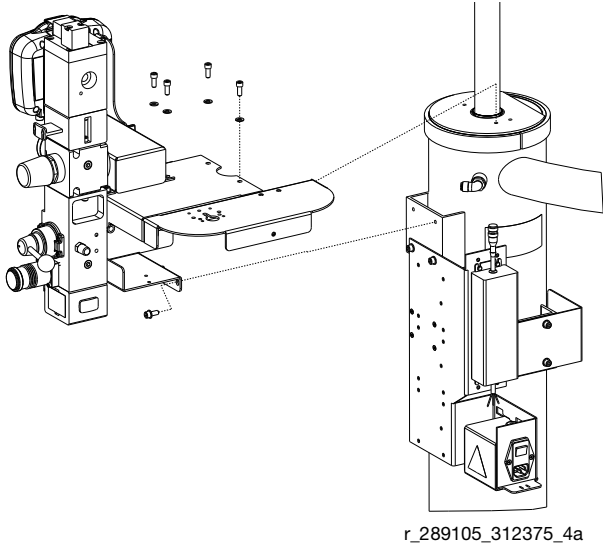

FIG. 4
**NOTE:** If you are not replacing the manifold (1), you may prefer to remove the bracket from the ram and leave it attached to the integrated air controls because the screws are easier to reach. See FIG. 4.